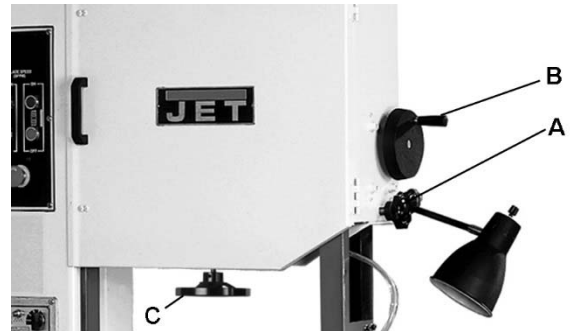

Figure 8
1. Raise upper blade guide by loosening lock knob (A, Figure 8) and turning blade guide handwheel (B) clockwise until it stops.
3. To tighten blade, turn handwheel (C, Figure 8) clockwise. To loosen blade, turn handwheel counterclockwise.
1. Loosen lock knob (A, Figure 8) and turn blade guide handwheel (B, Figure 8) until blade guide assembly is half way between table and head, then tighten lock knob (A, Figure 8).